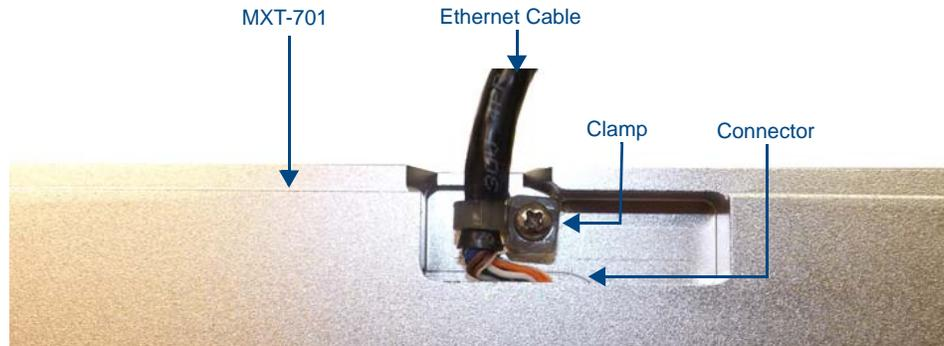

FIG. 9 Bottom of the MXT-701
2. Remove the clamp holding the Ethernet cable (FIG. 9) until the Ethernet cable moves freely.